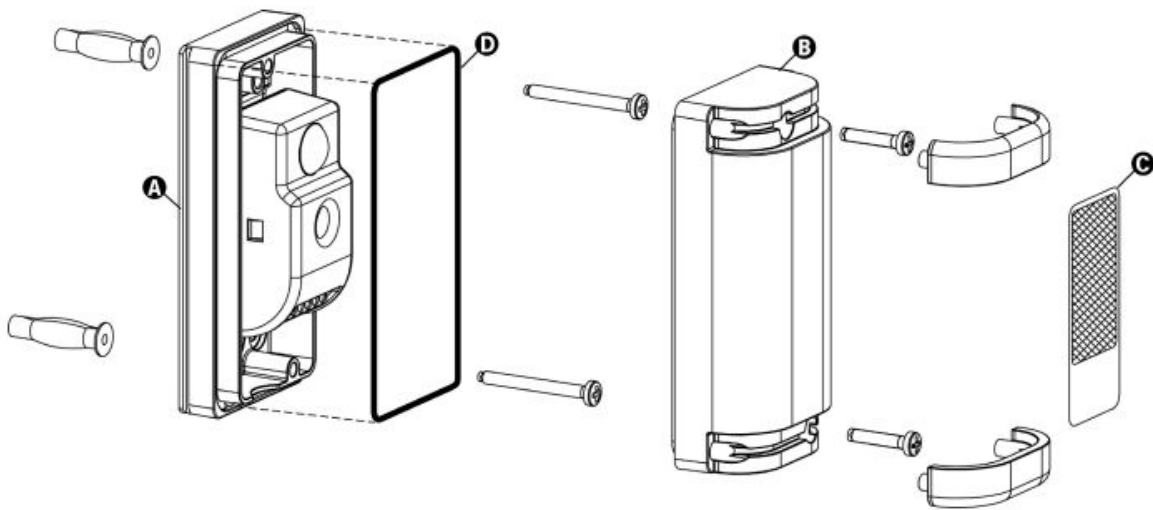

Figure 5.3
4. Insert the gasket **D** in the base **A** (Figure 5.3).